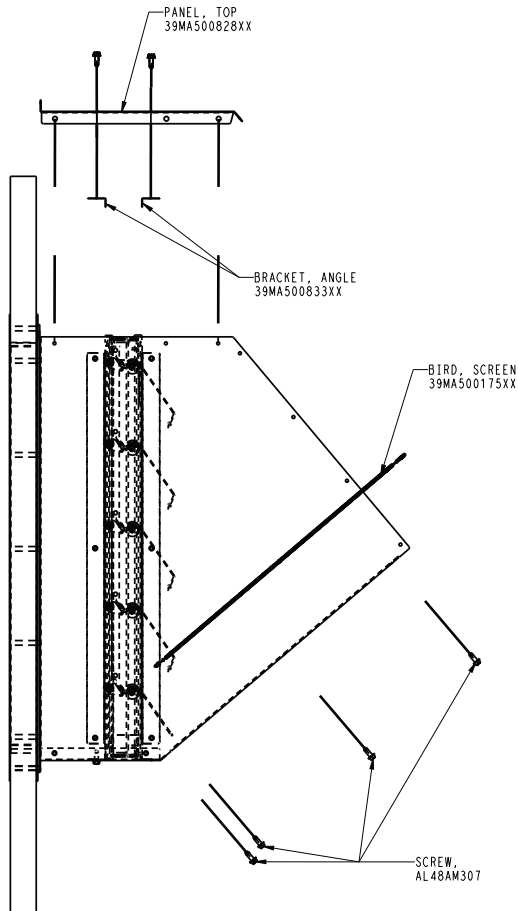

Fig. 84 — Attaching Bird Screen and Top Panel
13. Attach bird screen to the inside of the hood using the $\frac{1}{4}$ in.- $\frac{5}{8}$ in. long sheet metal screws (without neoprene washer.) Also, attach brackets to top panel, then attach top panel to power exhaust assembly. See Fig. 84.